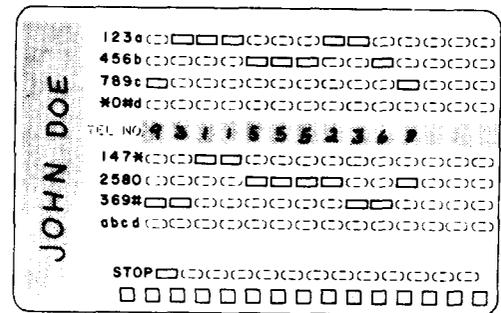

Fig. 4—Dial Card Coded for Access Code (9), Stop, Area Code (311), and 7-Digit Telephone Number
3.10 In certain PBX systems, it may be necessary to dial an access code to obtain central office dial tone. To prepare a card, proceed as follows (Fig. 4):